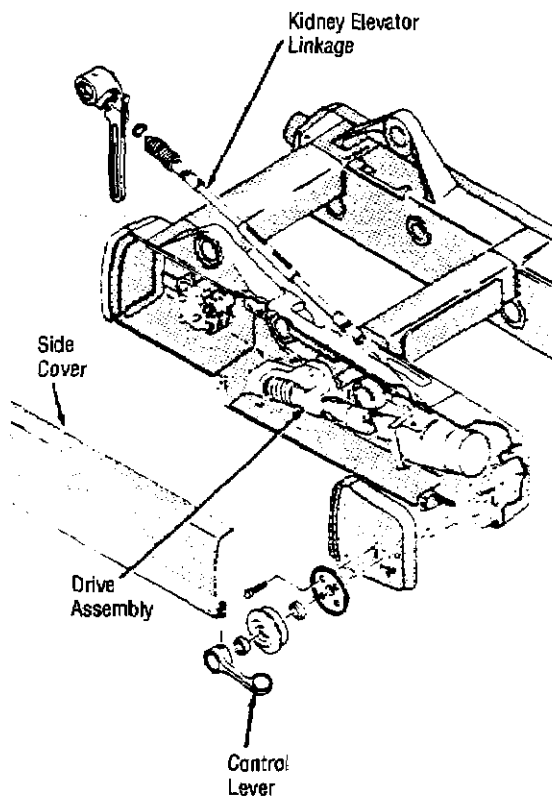

Figure 6-2. Trendelenburg Drive Assembly
1. Service tabletop drive assemblies as follows (see Figures 6-2 and 6-3):
2. Remove side covers from both sides of Table (Figures 6-2 and 6-3). Lubricate control lever linkage and 2080RC selector assembly screw shaft and cam with *MOLYLITH HD No. 2* or equivalent. Also coat selector assembly gears with same lubricant. Replace side covers.